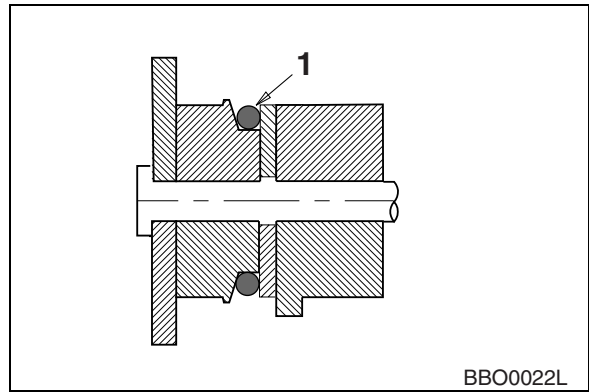

Figure 9
5. Roll the new O-ring (1, Figure 9) into the O-ring groove.